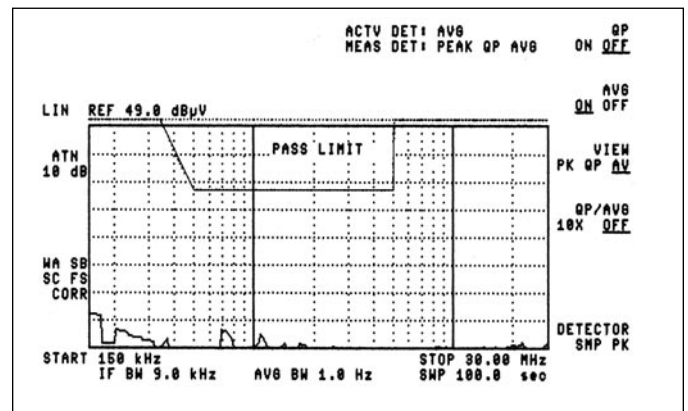

Figure 9–10c — Average detection
**Bus OK (BOK) Pin.** (Figure 9–12) The Bus OK pin is intended to provide early-warning power fail information and is also referenced to the SR pin.